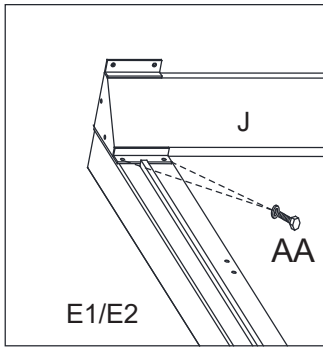

Fig 3
1-c. Attach the Lintel (E2/E1) to Post (J) with Bolt\Flat Washer M6\*15(AA). See Fig.3.